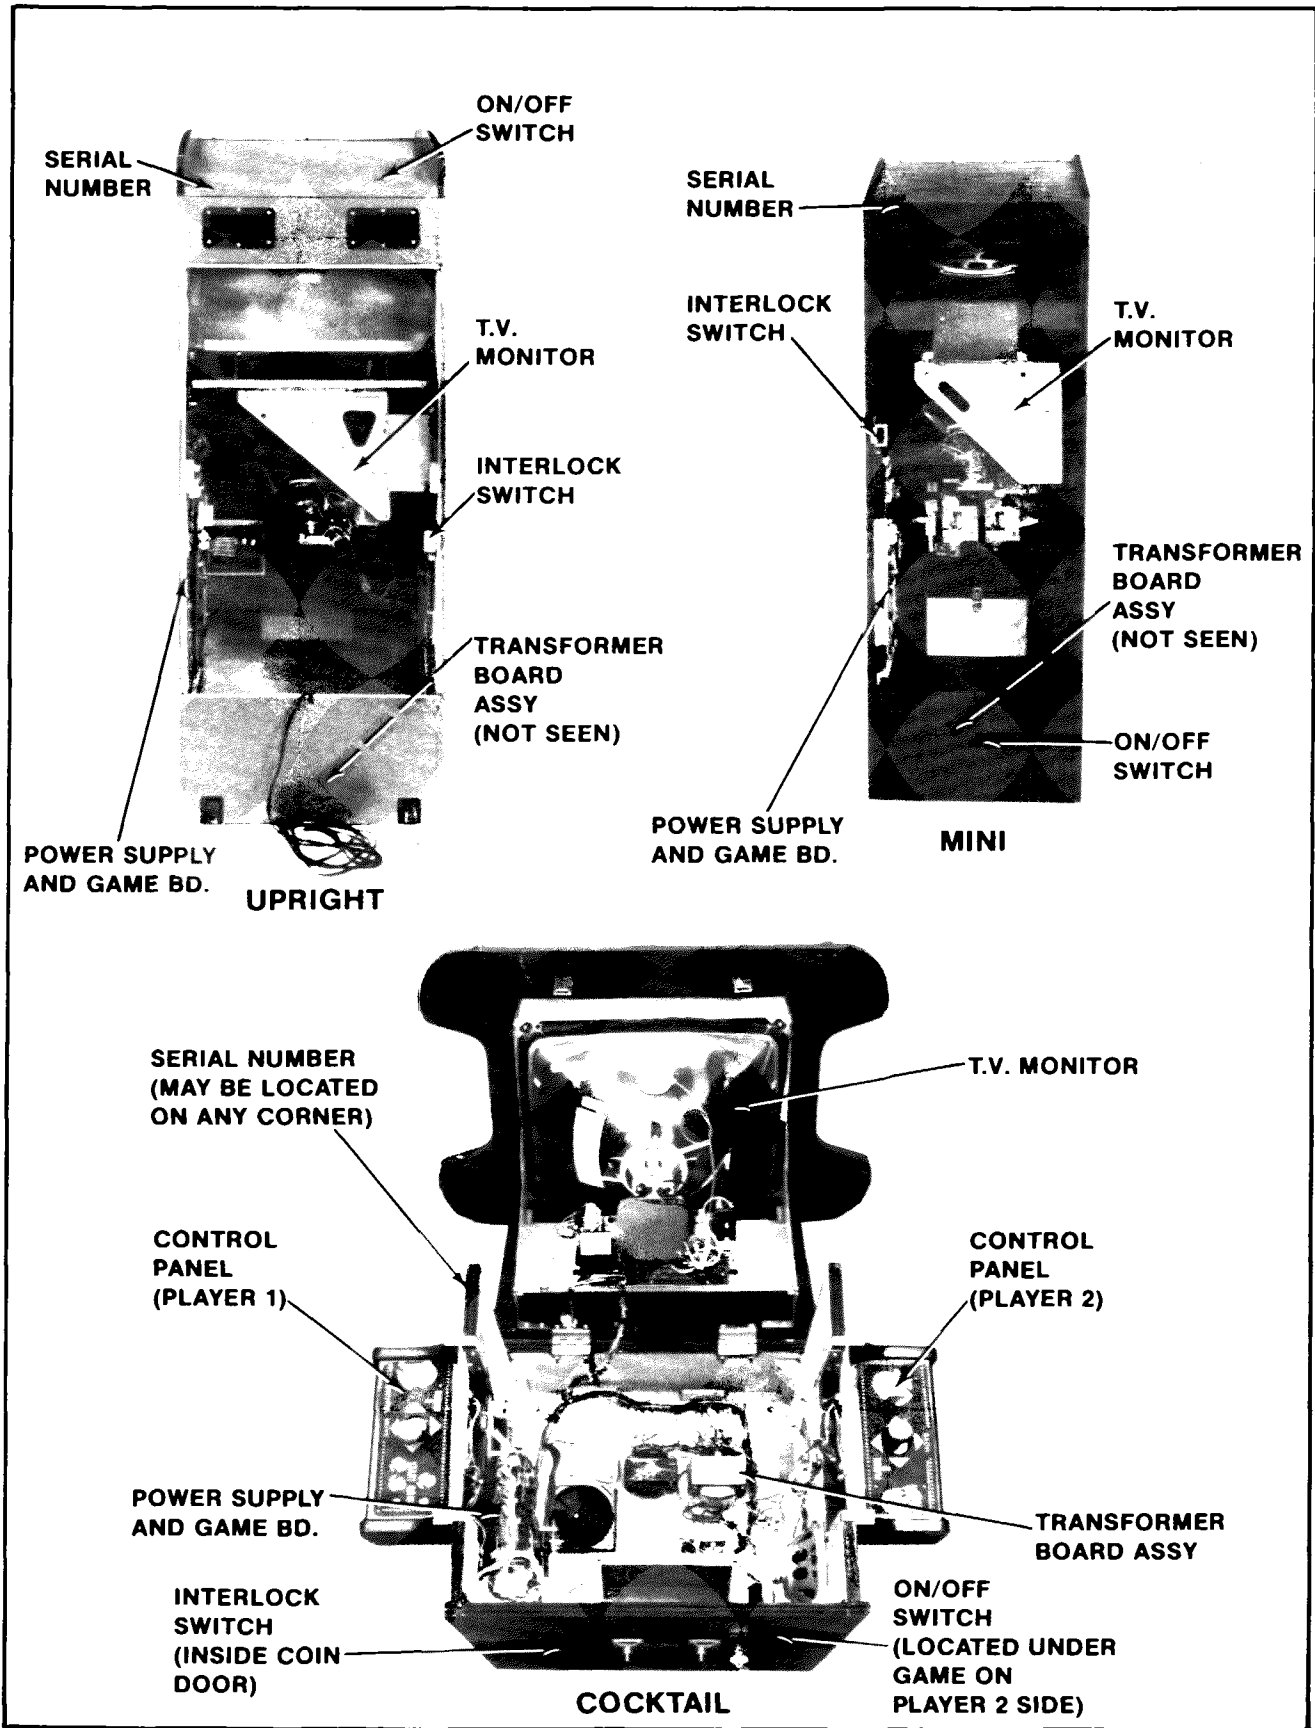

Figure 2 Location of serial number, on/off switch, interlock switch & major sub-assemblies
5. Open the cabinet and inspect the inside of the game for any signs of damage. See Figure 2.
- Make sure all printed circuit boards (P.C.B.'s) are firmly seated in their connectors. See Figure 2. These connectors are also keyed. The P.C.B.'s will only go into them one way without being damaged.
- Note the location of the game's serial number. See Figure 2.
- Check all major subassemblies to be sure they are mounted securely. These are called out in Figures 2 & 3.
### 3. Interlock and power ON/OFF switches. See Figure 2.
The game ON/OFF switches for all models are located as shown in Figure 2. Turn the game on and allow it to warm up a few minutes.